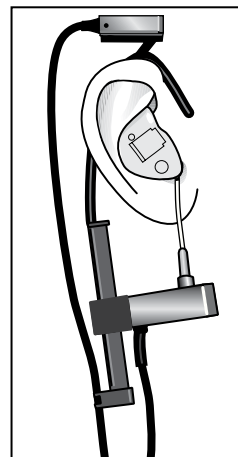

Figure 5.2.4C
5. Insert the hearing aid making sure the mark on the probe tube remains aligned with the outside of the aid. See Figures 5.2.4C.